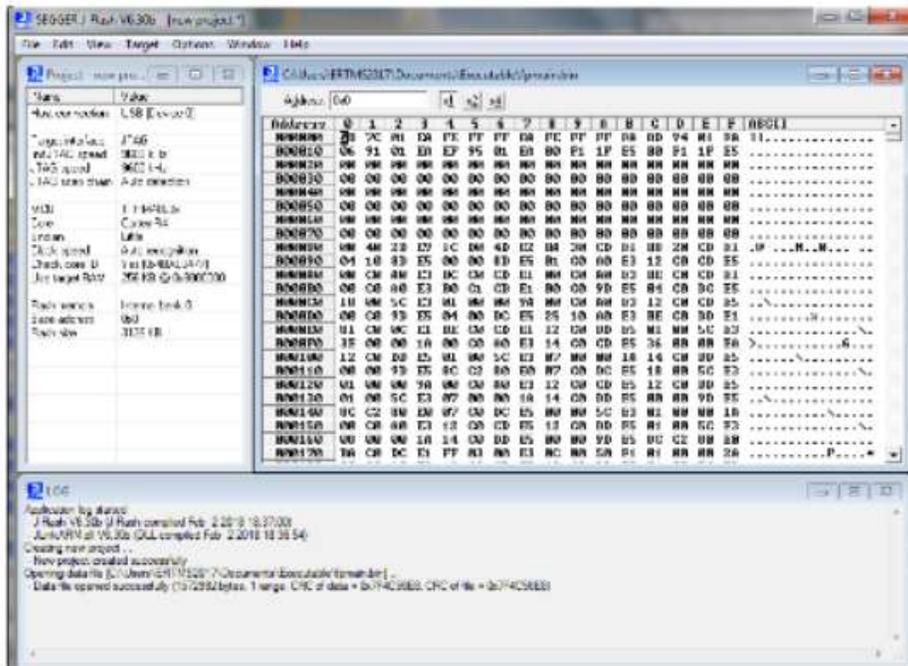

Figure 10: Screen fpmain.bin [LoadFile\_3]
11. The file "fpmain.bin" now loads and the screen "...\\Executable\\fpmain.bin" appears (Figure 10, STMA-69073);